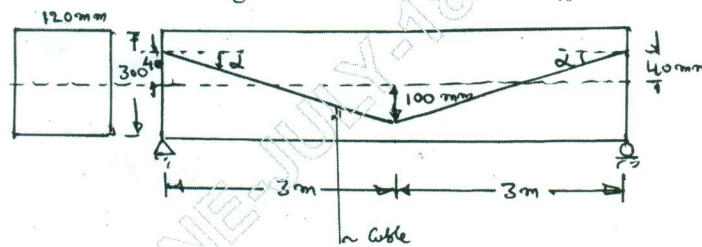

Fig.Q4(b)
- The beam of uniform section is prestressed with a bent cable as shown below Fig.Q4(b), in which the initial prestress is 300 kN. Taking the loss ratio as 80%. Determine (14 Marks)